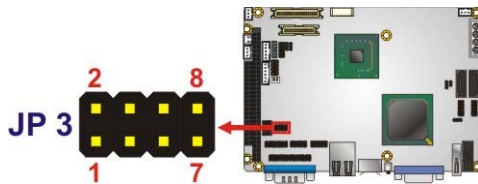

Figure 4-7: COM2 RS-232/422/485 Jumper Location
- Jumper Location:** See Figure 4-7